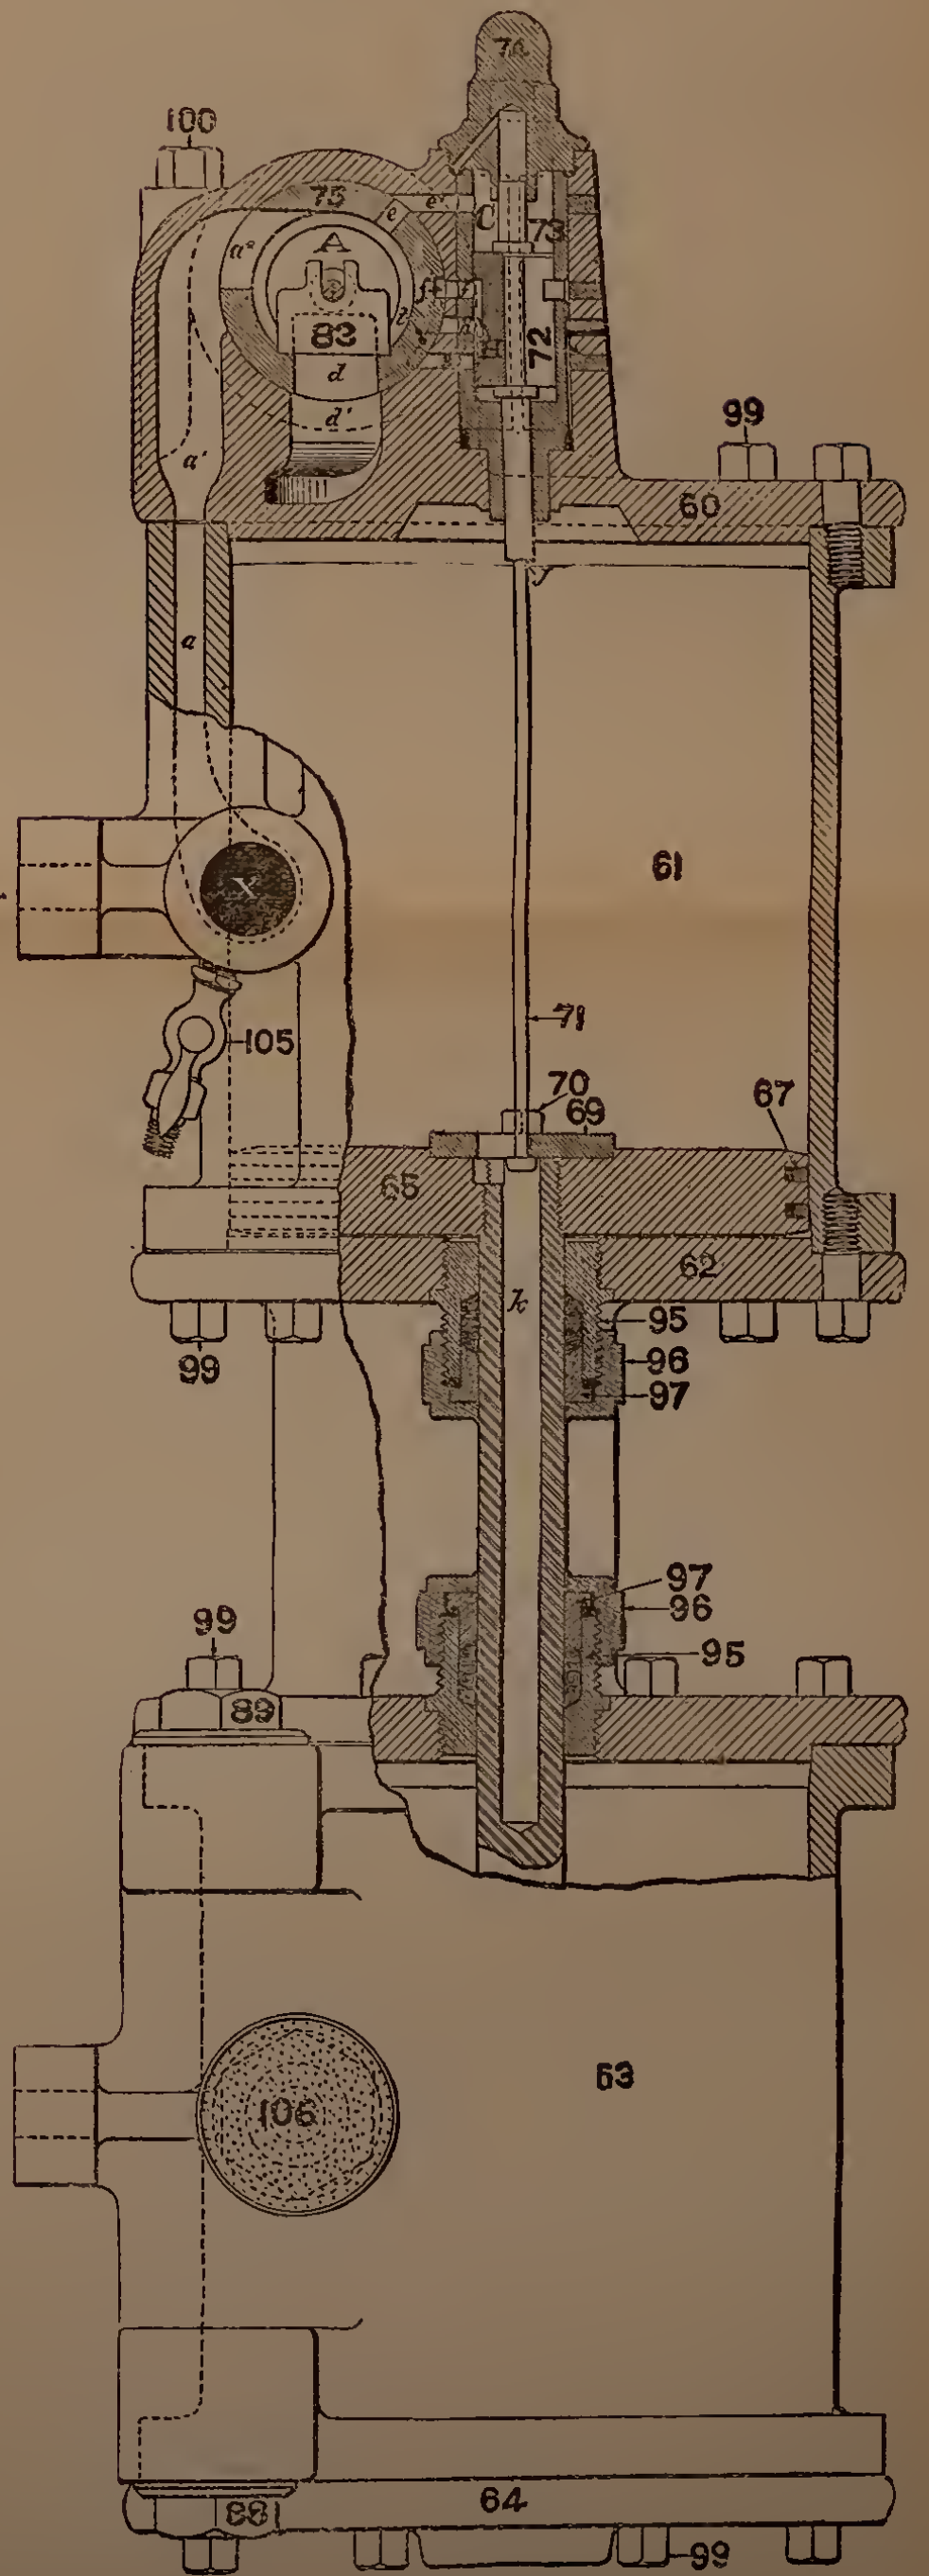

Fig. 36
A. The main piston 65 is now being forced up by the steam pressure, and just before it reaches the top of its stroke the reversing plate 69 strikes the lug *J* on the reversing rod 71, lifting the rod. As this rod is lifted the reversing slide valve 72 (Fig. 36) is carried up with it, and the pump is reversed.
Q. *What is the duty of the reversing slide valve 72 (Fig. 36)?*
A. As the reversing valve is lifted by the rod 71, port *g* in the bushing (Figs. 36 and 37) is exposed to the steam pressure which is always in chamber *C*, which is in constant communication with chamber *A* by means of ports *e* and *e'* (Fig. 36).
When valve 72 is raised, steam passes through port *g* (Figs. 36 and 37) into cavity *D*. We now have equal steam pressure on both sides of piston 77, and it is balanced; but the pressure acting on the right of piston
A. The reversing plate 69 strikes the button at the bottom of the reversing rod 71 and pulls the reversing slide valve 72 down to its position as shown in Fig. 36. We have now completed one entire stroke of the pump.
Q. Of what use is the port in the cap 74 (Fig. 36, Plate VII) which leads to the top of the stem 71?